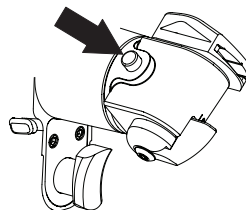

Figure 2 – To Index Head Push the Button
1. Push and hold the index button; rotate the sagittal head to the desired cutting angle (see figure 2).